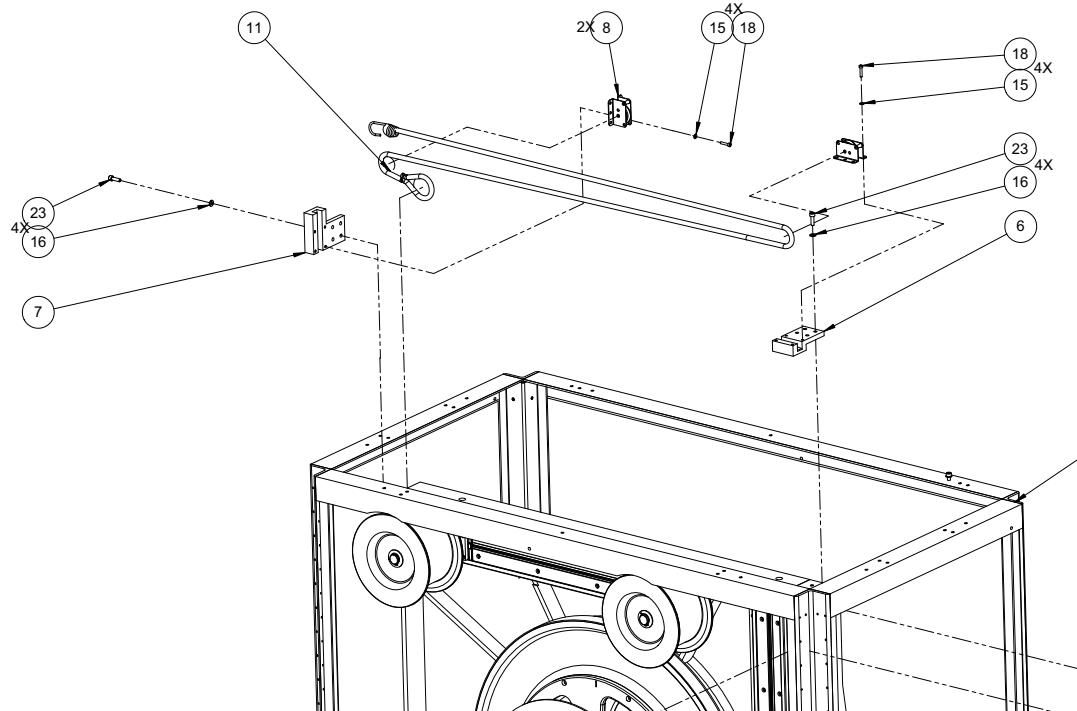

Figure 5-62
1. Hook the replacement Pulley Return Cord as shown in the first photo under Removal. Thread the Cord over the pulleys as shown in Figure 5-62.